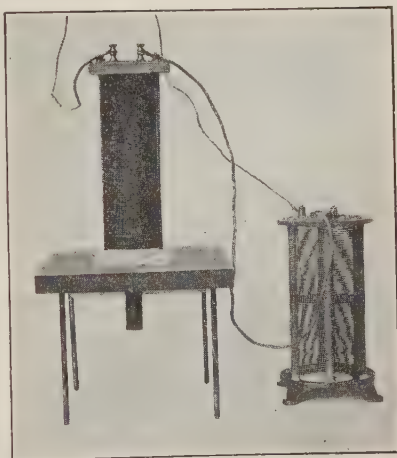

FIGURE 357. — SUCKING COIL.
**EXPERIMENT 99.** — On a fiber or cardboard tube, open at both ends, wind enough wire so that the available current will make a strong magnetic field. Mount this coil vertically on a firm base, raised about two thirds the height of the coil above the table, with the end of the tube projecting through the base, which is elevated some distance above the table. Stand on the table a bar of soft iron a little smaller than the opening in the tube, with one end in the lower end of the tube. Turn on the current, and observe the behavior of the iron (Figure 357). The effect is due to the tendency of iron to move from a weak magnetic field into a strong magnetic field, a tendency shown in all cases of magnetic attraction.
Turn on the current, and observe the behavior of the iron (Figure 357). The effect is due to the tendency of iron to move from a weak magnetic field into a strong magnetic field, a tendency shown in all cases of magnetic attraction.